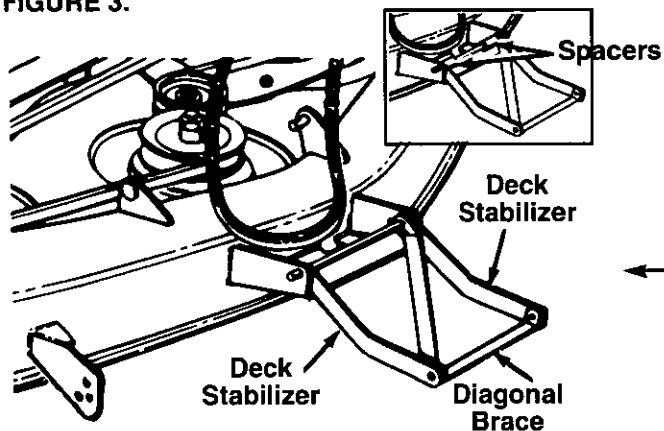

FIGURE 4.
2. The two deck stabilizers and the diagonal brace which are attached to the front of the deck are folded back over the deck for shipping purposes. Unfold them at this time. See figure 4.
**NOTE:** If the hardware for attaching the deck is assembled to your deck, remove the hairpin clips and flat washers from each deck bracket. Remove the spacers from the rod which is through the deck stabilizer by removing the hairpin clips and sliding out the rod. Replace the rod and hairpin clips. See figure 4, inset.